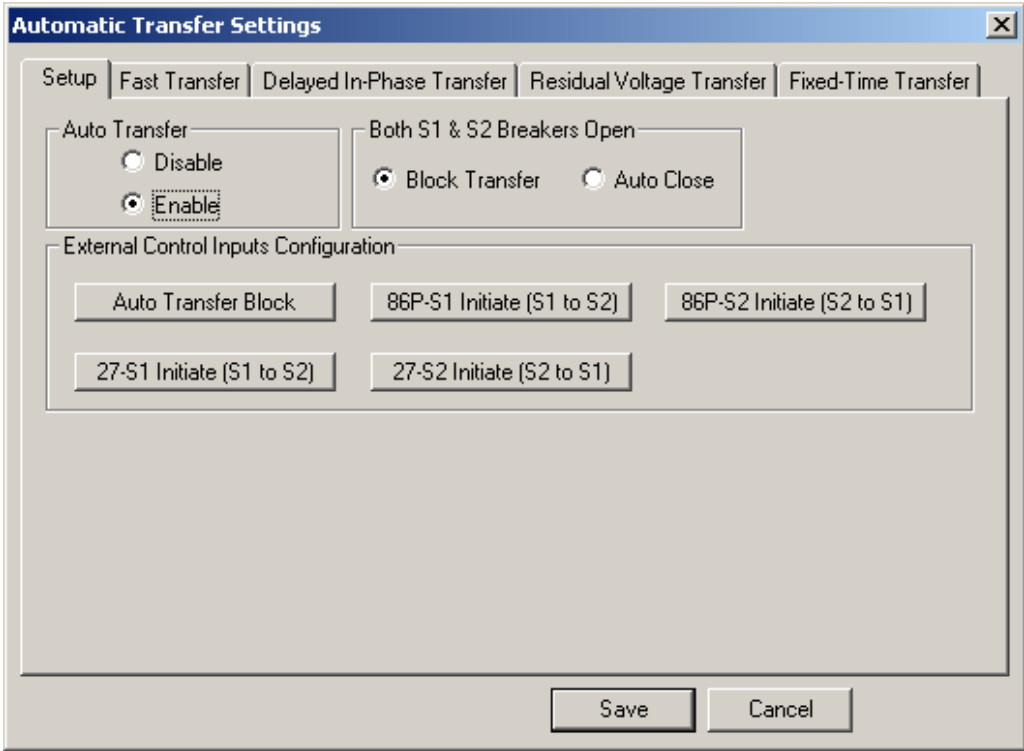

Figure 4-47 Automatic Transfer Settings Dialog Screen
The External Control Inputs Configuration portion of the Automatic Transfer Settings dialog screen (Figure 4-47) includes the following External Control Input configuration selections:
**Automatic Transfer Settings Setup Tab/Save/Cancel** — The Save selection (Figure 4-47) saves the Automatic Transfer settings either to an open file or to the target MBTS. Cancel, returns the user to the previous open screen.